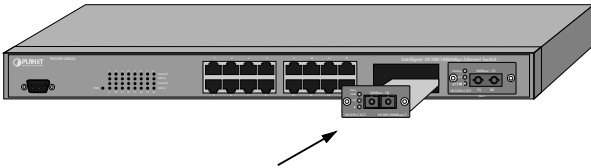

Figure 7. Insert the modules
3. Install the new module by inserting it into the guides and sliding it in until it stops (See **Figure 7**). Press it firmly until you feel the module snap into place. Never force, twist or bend the optional module. The optional module slides in smoothly.